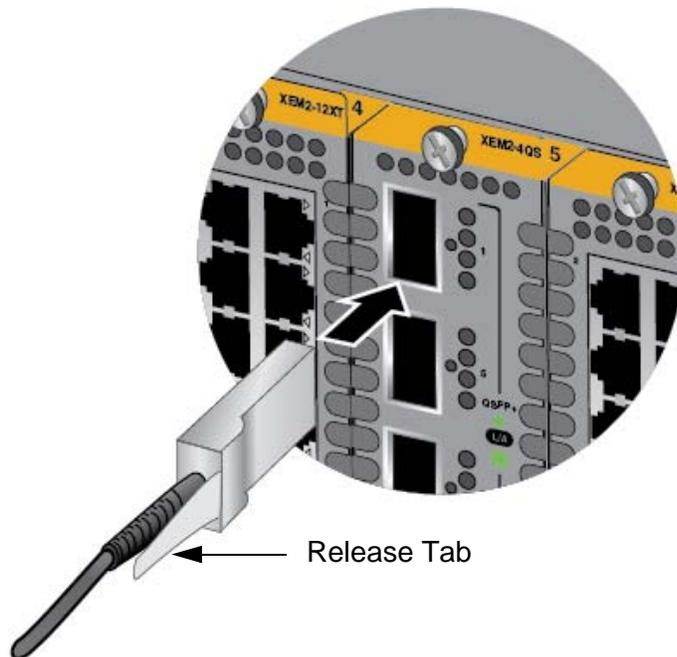

Figure 107. Sliding the QSFP+ Cable into the Port
- XEM2-4QS Line Card - Orient the connector on the QSFP+ Cable with the release tab on the left side and slide it into the port until it clicks into place. Refer to Figure 107.